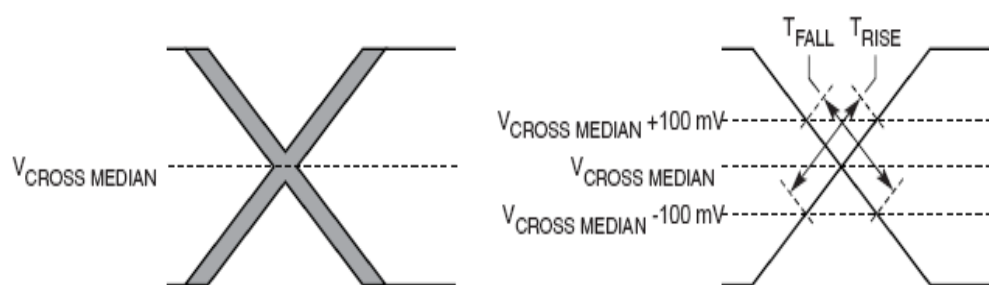

Figure 51. Single-Ended Measurement Points for Rise and Fall Time Matching
6. Matching applies to rising edge for SD_n_REF_CLK and falling edge rate for SD_n_REF_CLK. It is measured using a 200 mV window centered on the median cross point where SD_n_REF_CLK rising meets SD_n_REF_CLK falling. The median cross point is used to calculate the voltage thresholds that the oscilloscope uses for the edge rate calculations. The rise edge rate of SD_n_REF_CLK should be compared to the fall edge rate of SD_n_REF_CLK, the maximum allowed difference should not exceed 20% of the slowest edge rate. See Figure 51.